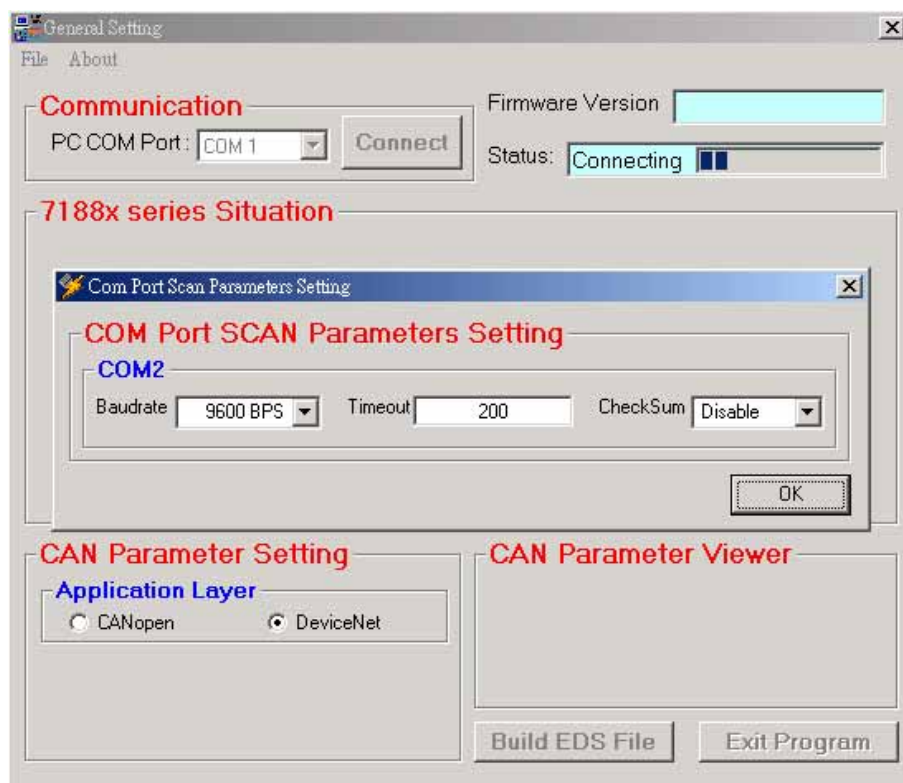

Fig 5-18 “Com Port Scan Parameters Setting”
Step 3: Press the “Connect” button to connect the I-7241D. Then the “Com Port Scan Parameter Setting” dialog will be pop-up as follows. Please set the correct com port communication parameters to scan the I-7000 modules. Then press the “OK” button to begin the modules scans as figure 5-18.